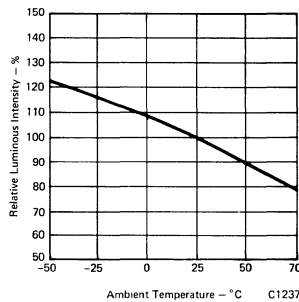

Fig. 3. Relative Luminous Intensity vs. Ambient Temperature
- The curve in Figure 3 is normalized to the brightness of 25° C to indicate the relative Luminous Intensity over the operating temperature range.